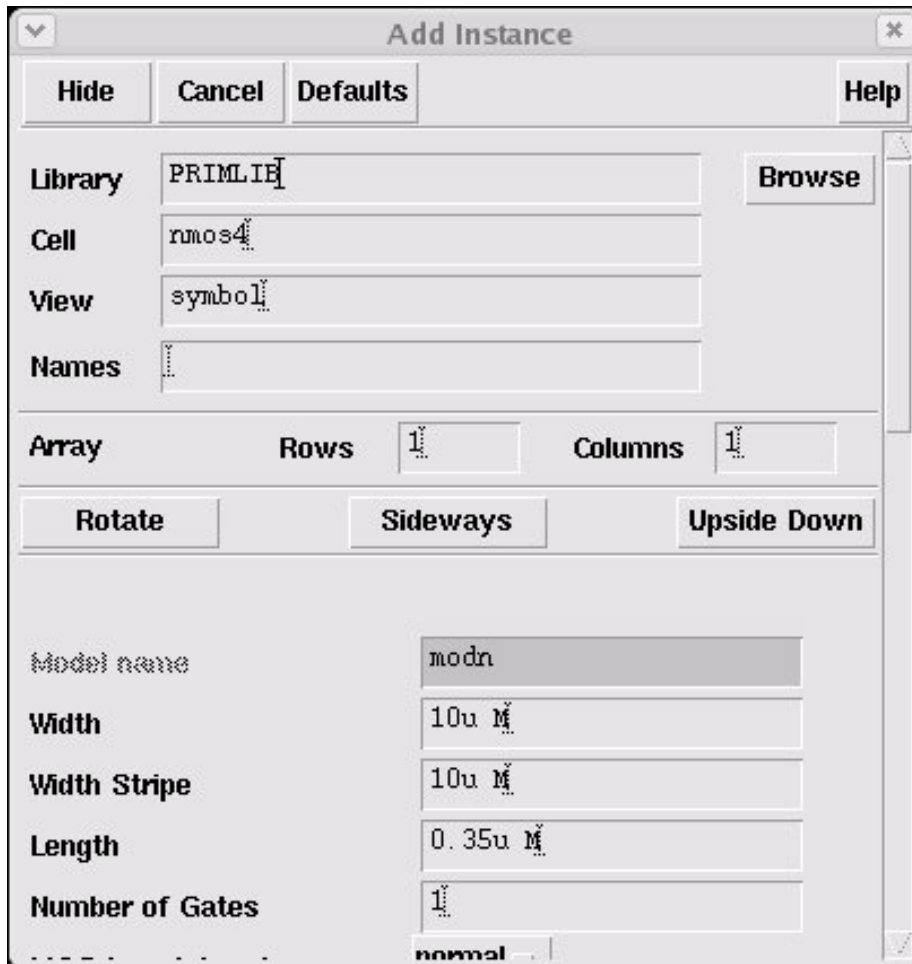
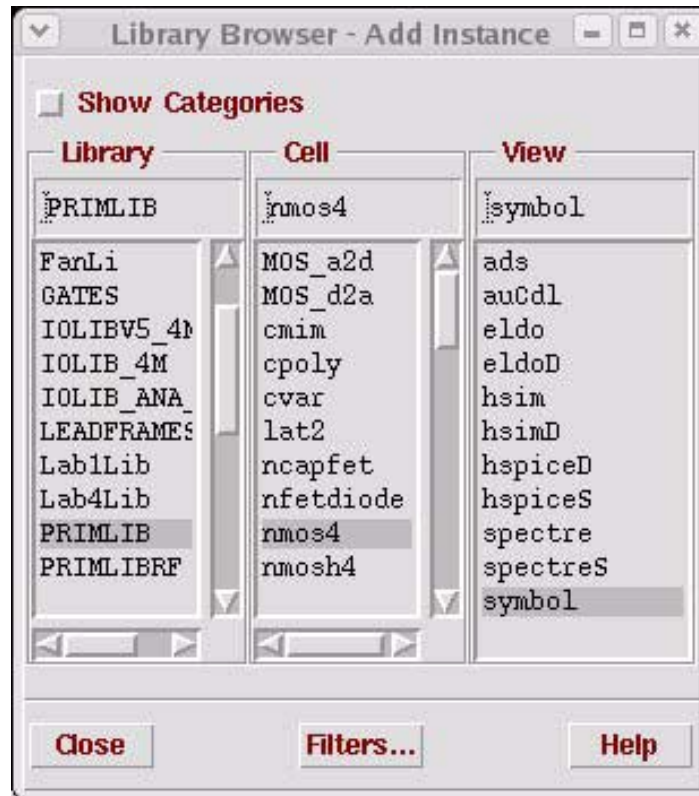

Figure 9: Add Instance window
Figure 10: Add Instance Library Browser
- [1] *Instantiate the symbol view of the nmos4 transistor from the PRIMLIB library using any of the means described above. An Add Instance window will appear. You can type in Library, Cell and View as shown in Figure 9, or select Browse and navigate to the nmos4 symbol view using the Add Instance Library Manager which then appears (Figure 10).*